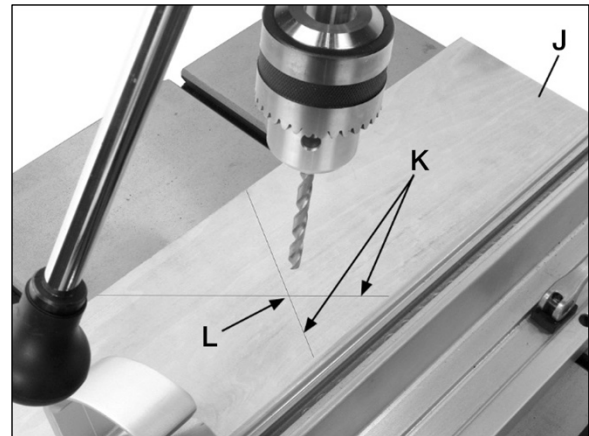
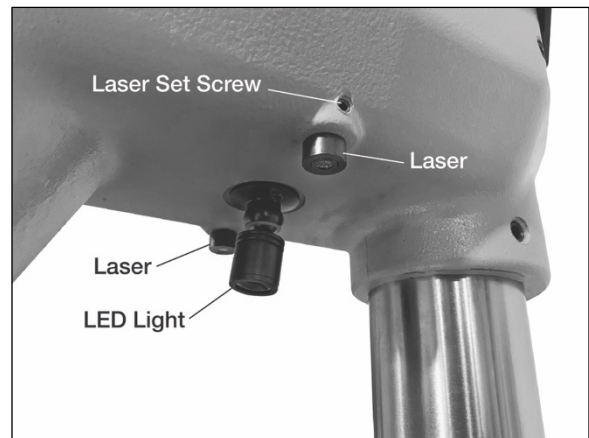

Figure 8-8
Figure 8-9
1. Place a wooden board (J, Figure 8-8) flat on table. Do not allow the board to move from this
2. Loosen the laser setscrew on one side of the drill press head (see Figure 8-9). Using your thumb and forefinger, slightly rotate the laser left or right until it bisects the drill bit indentation on the board (K, Figure 8-8). Tighten the laser set screw to lock this laser in place.
3. Repeat step 2 with the laser on the other side of the drill press head. Make sure the second laser bisects the drill bit indentation (L, Figure 8-8). The two lasers will now form an "X" with the center of the "X" at the precise point of the drill bit indentation.
The LED light is activated by the front panel switch. Press on the outer rim of the light to adjust (see Figure 8-9).